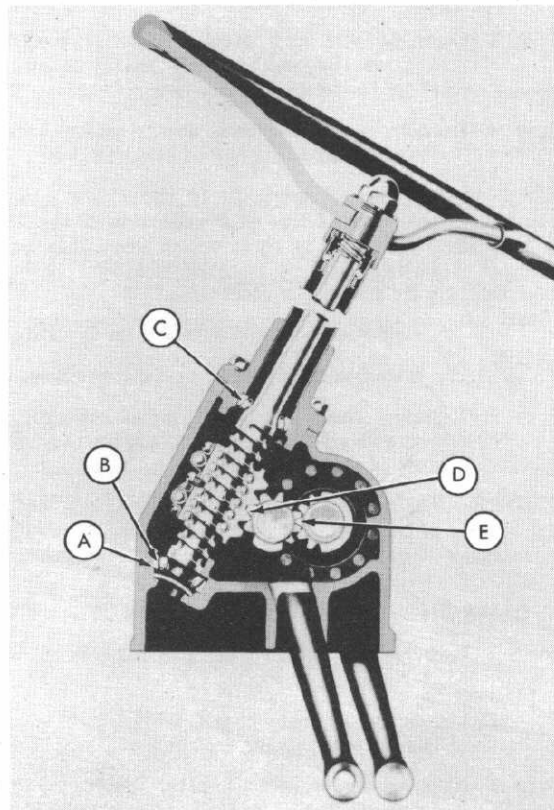

Fig. 3
Step 1—Install the steering shaft lower bearing (B-Figure 3).
Step 3—Install the top bearing (C-Figure 3).
Step 8—Center the ball nut on the shaft as shown in Figure 3.
a. The center tooth of the three large sector teeth is meshed with the center space of the teeth on the ball nut (D-Figure 3).
a. Mesh the center tooth of the sector with the third tooth space on the left sector gear (counting from the solid section of the gear located on the bottom (E-Figure 3)).